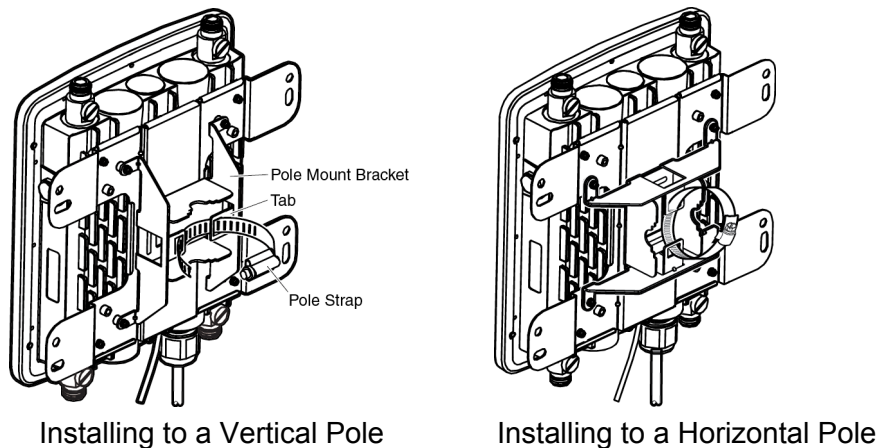

Figure 15. Attaching the O-Ring Clamp to the Pole-Mount Bracket
5. Attach the O-ring clamp to the pole-mount bracket. See Figure 15.